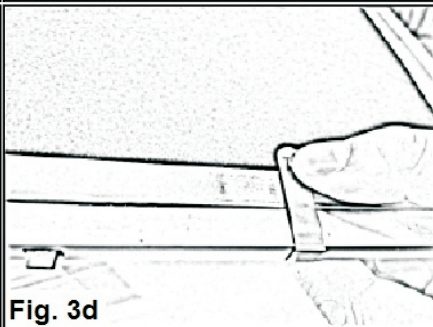

Fig. 3d
- f. Install 4 clips in total. (Fig. 3d)